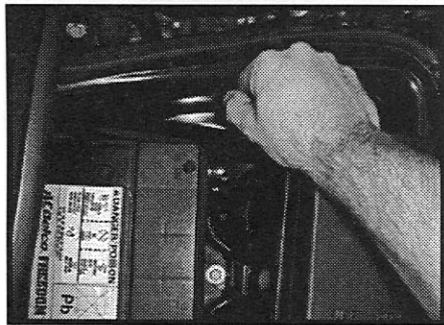

Fig. 1
11. Reconnect negative battery cable (see Fig. 1).